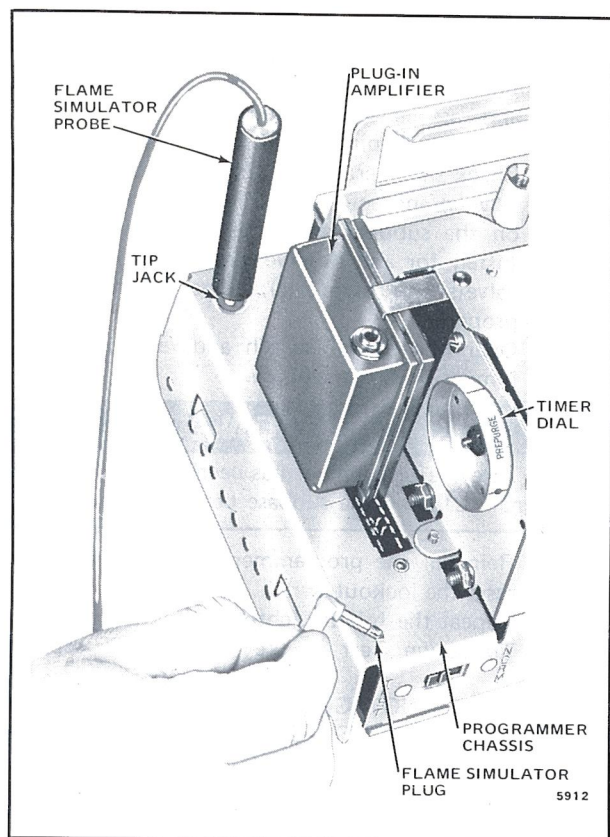

Fig. 12—Using a flame simulator.
- (1) Complete step 3.b., above.
- (2) Close the master switch.
- (3) Plug the probe of a 123514A Flame Simulator into the tip jack on the front of the programmer chassis (Fig. 12).
- (4) Hold the plug (lead end) of the simulator against the programmer chassis. Relay 2K should pull in and stay in while the plug is in contact with the chassis.
- (5) If relay 2K pulls in, the trouble is in the flame detector or its circuitry outside the programmer. Proceed to step 4 on the next page.
- (6) If relay 2K does not pull in, open the master switch.
- (7) Replace the plug-in amplifier with a new one of the same part number.
- (8) Close the master switch and repeat (4).
- (9) If relay 2K pulls in, restore the programmer to operating condition as instructed in step 4.a, on the next page.
- (10) If relay 2K still does not pull in, replace the programmer.